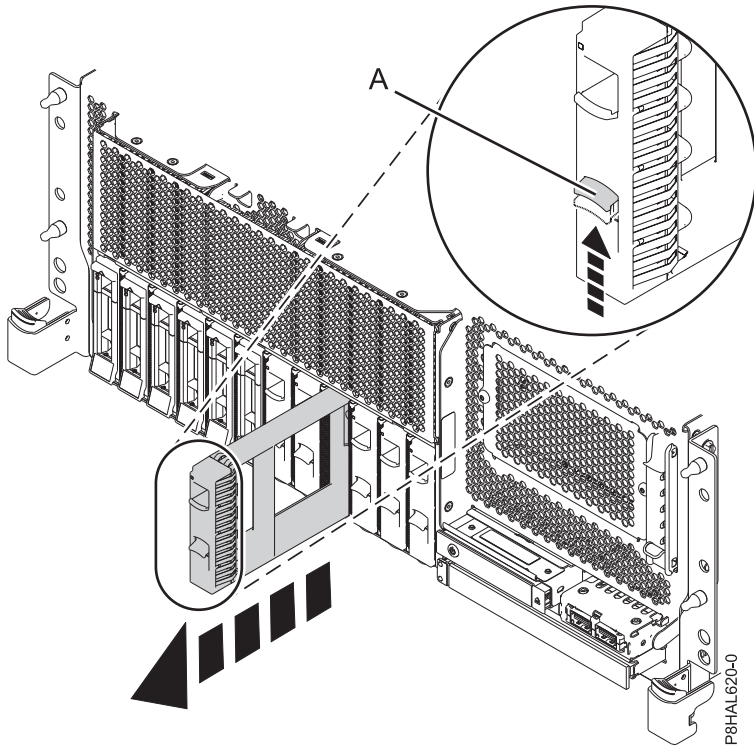

Figure 5. Removing a disk drive filler from a rack-mounted base function system
- a. Push the lock (**A**) on the handle of the filler in the direction that is shown in Figure 5 on page 8.